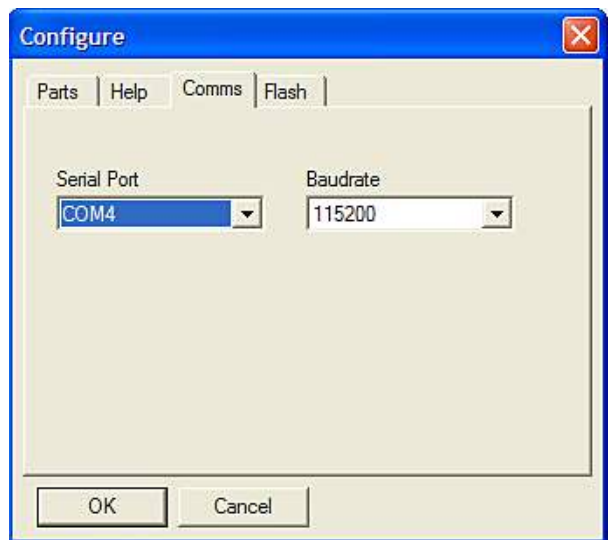

Figure 14. Selecting the Correct COM Port for the Downloader
4. Click **Configure** to display the box shown in Figure 14.
The downloader file should be configured for the **ADuC7026** microcontroller on the ISEB. The only option you may need to change is the COM port. You can select the correct port from the **Serial Port** menu on the **Comms** tab (see Figure 14).